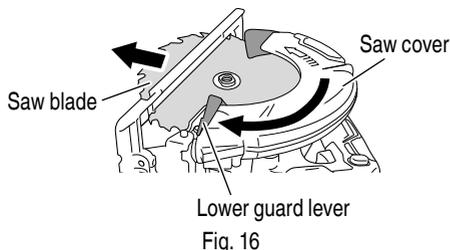

Fig. 16
- (2) Depress the lock lever, lock the spindle, and remove the hexagonal flange bolt and washer (B) with the hex. bar wrench 5 mm.
- (3) While holding the lower guard lever to keep the lower guard fully retracted into the saw cover, remove the saw blade (Fig. 16).